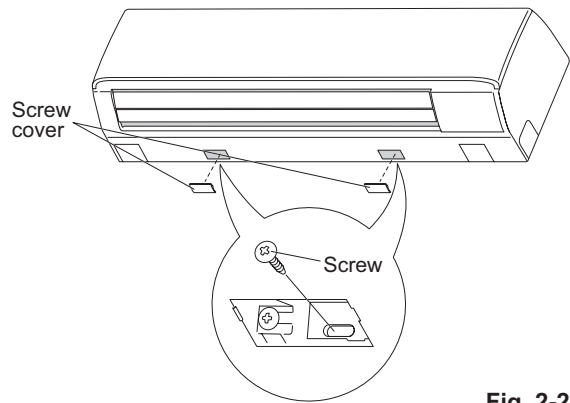

Fig. 2-228
(Fig. 2-228)
- (2) Fasten the frame to the rear panel using the 2 supplied tapping screws 4 x 10 mm. (Fig. 2-228)
- (3) Press the 2  $\Delta$  marks on the lower part of the indoor unit and unlatch the tabs. Then lift the indoor unit and unmount.